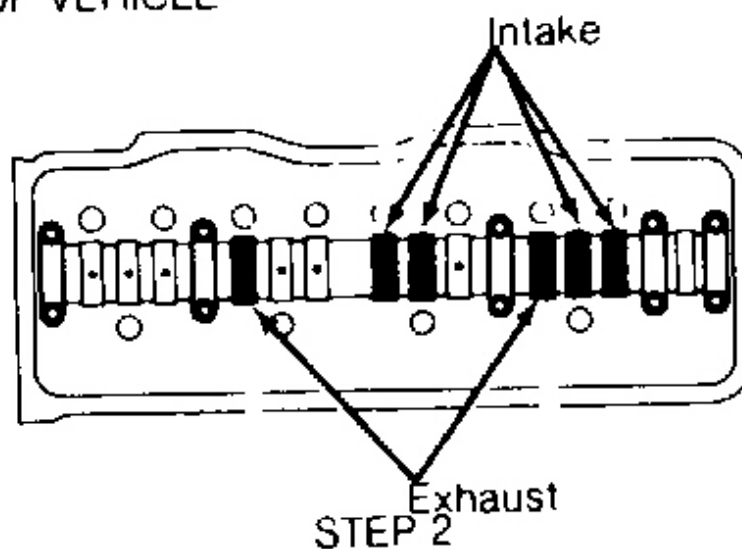

Fig. 2: Valve Clearance Adjustment Sequence
2. Ensure No. 1 cylinder rocker arms are loose and No. 4 cylinder rocker arms are tight. Measure valve clearance on valves indicated in STEP 1. See **Fig. 2** .
- Loosen rocker arm lock nut and turn adjusting screw to specified clearance. See **VALVE CLEARANCE SPECIFICATIONS** table. Tighten rocker arm lock nut and recheck clearance. Turn crankshaft 1 revolution and adjust valves in STEP 2. See **Fig. 2**.